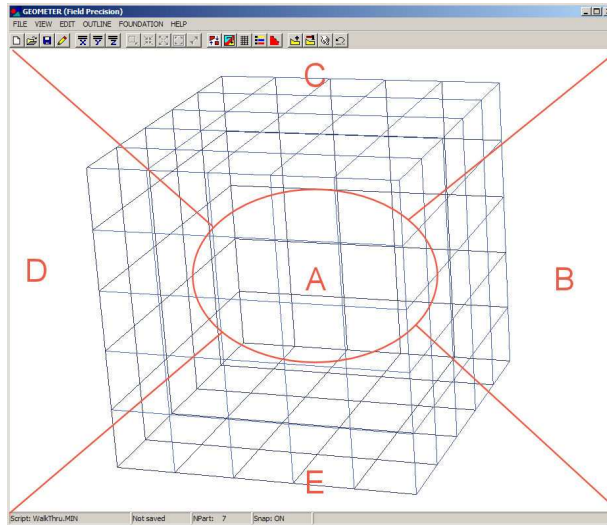

Figure 23: Active areas for mouse control of the 3D view.
The method to control the three-dimensional display with the mouse is identical to that used in **MetaMesh**. Figure 23 shows the active areas of the screen. The central zone (A) is used for zooming in (left button) and out (right button). Hold down the left mouse button in zones B, C, D and E to walk around the object. Hold down the right mouse button in zones B, C, D and E to move the viewpoint to the right, upward, to the left and downward. Note that changes are reflected in the orientation box in the upper-right portion of the screen. The plot is updated when you release the mouse button. You can control additional aspects of the three-dimensional view with the commands of the *Adjust view* popup menu.